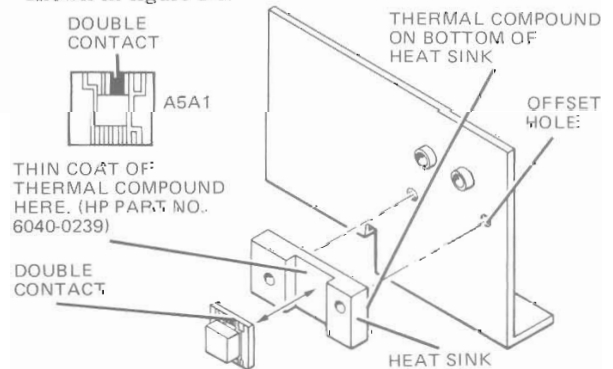

Figure 8-6. A5A1 Removal
8-20. Vertical Output Amplifier IC A5A1 Removal and Replacement. To remove A5A1, see figure 8-6 and proceed as follows:
- c. To reinstall A5A1, reverse the removal procedure, being certain to note orientation of parts as shown in figure 8-6.